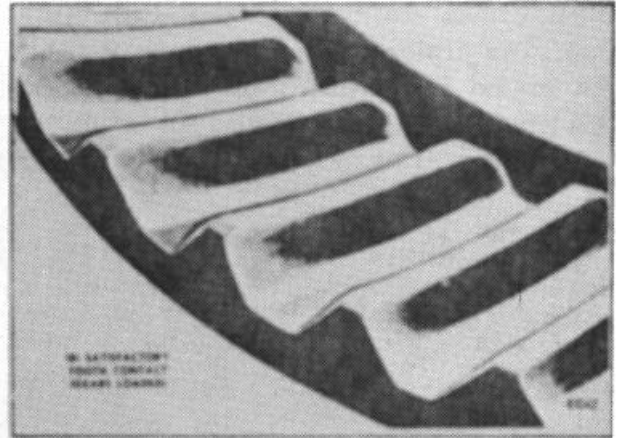

Figure 18.
2. Figures 18 and 19 show correct tooth contact.